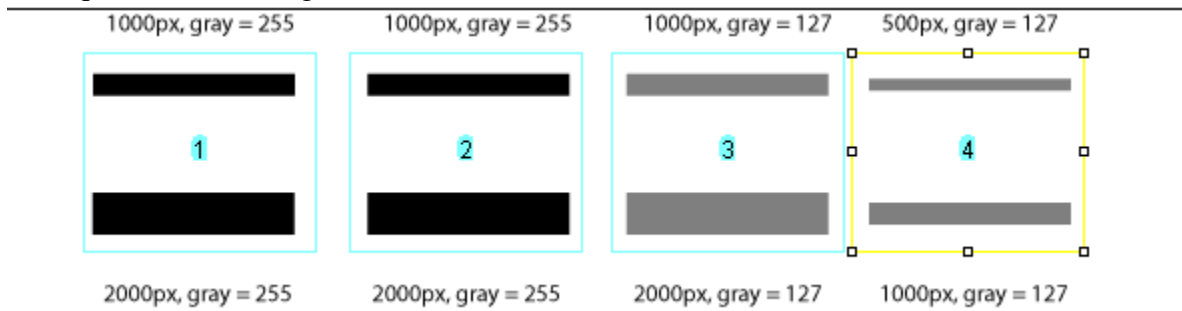

Figure 13. Each lane has been selected by moving the rectangle over it and pressing "2" to set the rectangle in place.
7. Repeat steps 5 + 6 for each subsequent lane, pressing "2" to set the rectangle over each subsequent lane (see Figure 13).